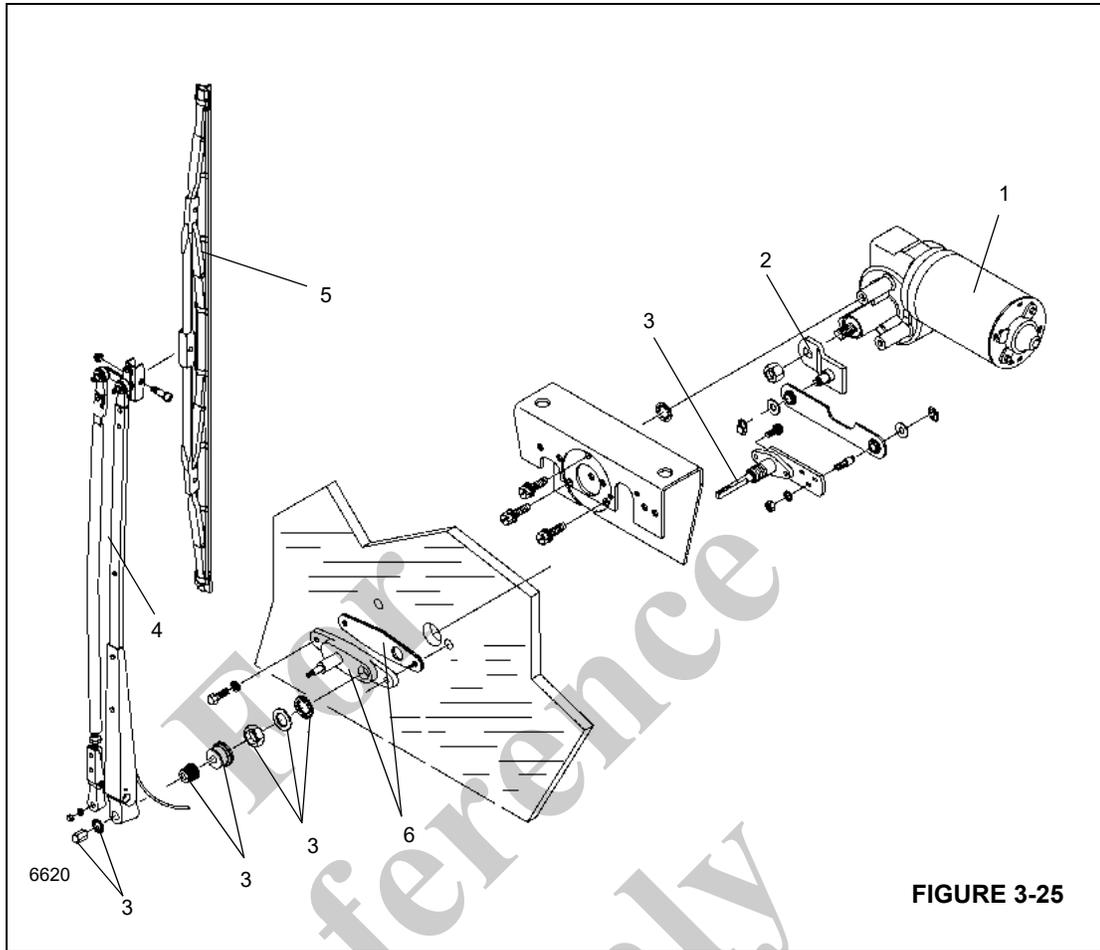

FIGURE 3-25
3. Remove hardware for the front console cover and remove the cover. Tag and disconnect the electrical leads from the motor (1), (Figure 3-25).
4. Disconnect the washer hose on the wiper arm (4), (Figure 3-25) (also called the pantograph arm assembly) from the washer nozzle fitting assembly.
5. Remove the cap nut, washer, and tapered sleeve securing the wiper arm (4), (Figure 3-25) to the pivot shaft (3), (Figure 3-25) assembly.
6. Remove the acorn nuts from the pivot shaft (3) and adapter (6), (Figure 3-25).
7. Remove the wiper arm (4), (Figure 3-25) from the pantograph arm assembly
8. Remove the flanged sleeve, nut, and two flat washers from the pivot shaft (3), (Figure 3-25).
9. Remove the two capscrews and lock washers securing the pantograph arm assembly's adapter to the cab exterior. Remove the pantograph arm assembly's adapter (6), (Figure 3-25) and gasket.
10. Remove attaching hardware to free the windshield wiper motor (1), (Figure 3-25) bracket from the cab interior. Remove the bracket, with motor and pivot shaft connected, from the cab.
11. Remove the nut to free the wiper motor's shaft from the wiper motor crank. Remove the three screws and washers to free the wiper motor from its bracket. Remove the wiper motor (1), (Figure 3-25) from its bracket. Leave the other parts attached to the bracket for now.